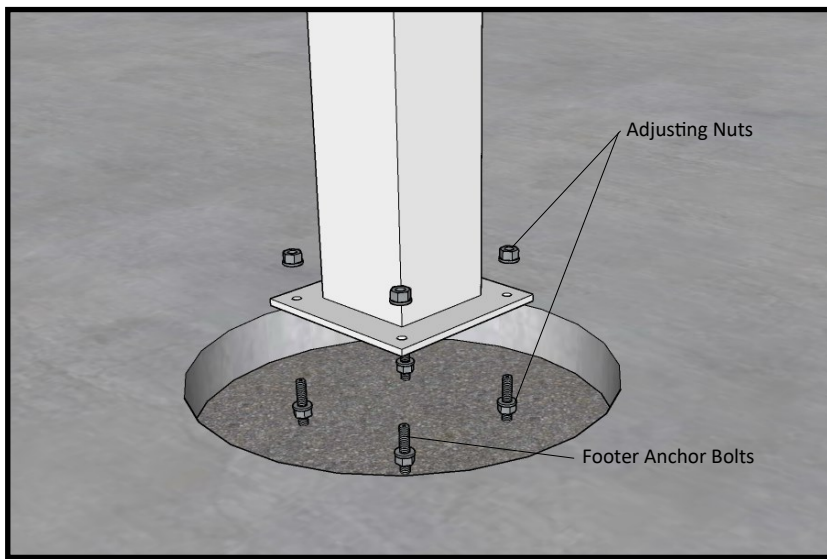

Fig 2
2. Refer to project specific drawing package for intended method of installation. - Begin installation by setting the Posts (#4) onto the anchors at top of the footers. Make sure you have nuts below and above the base plate to allow adjustment. (see fig 2)